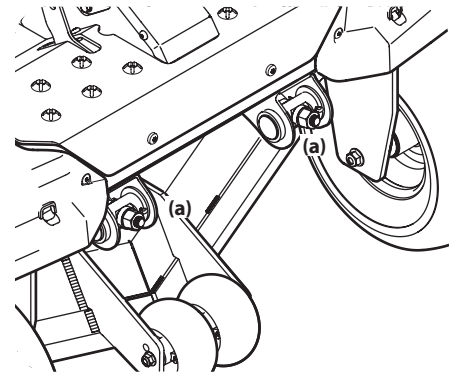

Figure 4-11
5. Using a wrench, raise the front of deck by loosening the lock nuts to the front of the pivot pin (a) and then tighten the jam nuts on the back of the pivot pin (a) to raise the front of the deck and secure in place. See Figure 4-11.
6. Using a wrench, lower the front of deck by loosening the jam nuts on the back of the pivot pin (a) and then tighten the lock nut on the front of the pivot pin (a) to lower the front of the deck and secure in place. See Figure 4-11.